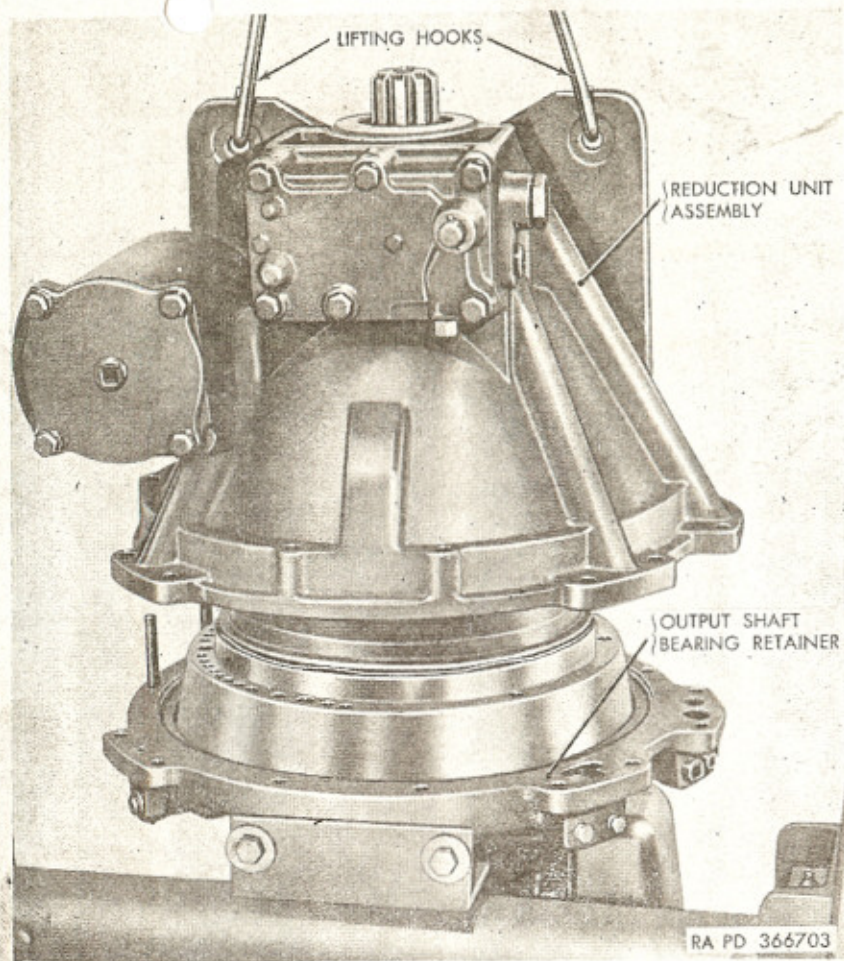

Figure 20. Removing or installing reduction unit case (303M).
c. Remove 12 bolts, 2 stud nuts, and 14 lockwashers which attach reduction unit case to output shaft bearing retainer and transmission case. Using lifting hooks—B7950336 (fig. 20) and chain hoist, raise reduction unit case from output shaft bearing retainer.